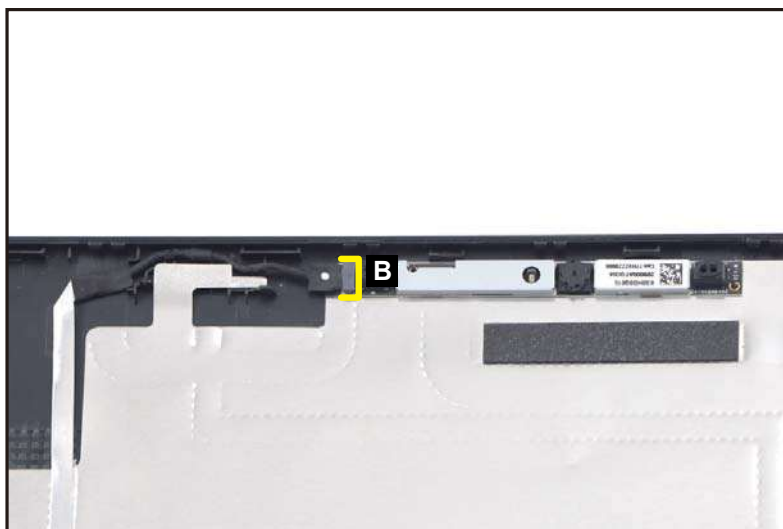

Figure 3-63. Camera Module Removal
2. Disconnect the LCD cable from the camera module connector (B) (Figure 3-63).